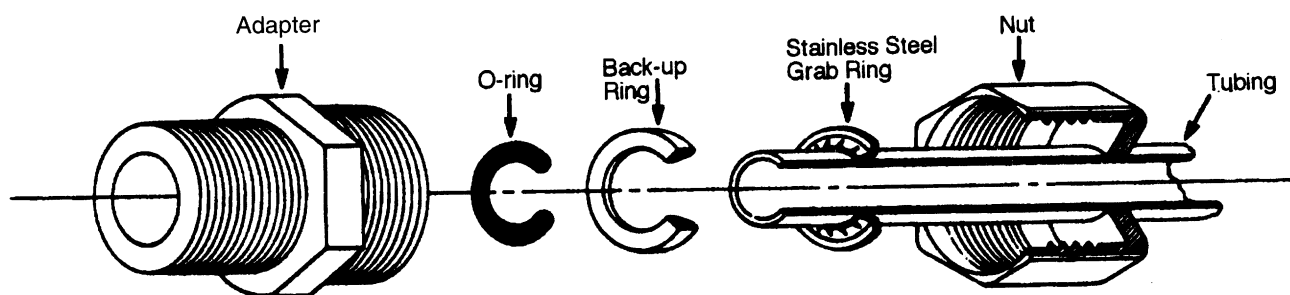

Figure 4: Typical Polypropylene Tubing Adapter Installation
1. Completely disassemble the fitting. Refer to Figure 4 to familiarize yourself with the names of the component parts.
3. Place the grab ring and back-up ring in the hex nut in the order and orientation shown in Figure 4. Thread the nut onto the adapter. **DO NOT** use the o-ring at this time.
2. Install the tubing adapter onto your incoming water line. Refer to Figure 4. We recommend a customer supplied shut off valve be installed in your feedwater line. The quick disconnect insert will be inserted into the feedwater inlet on the lower left corner in the rear of the Diamond TII during the Initial Operation.